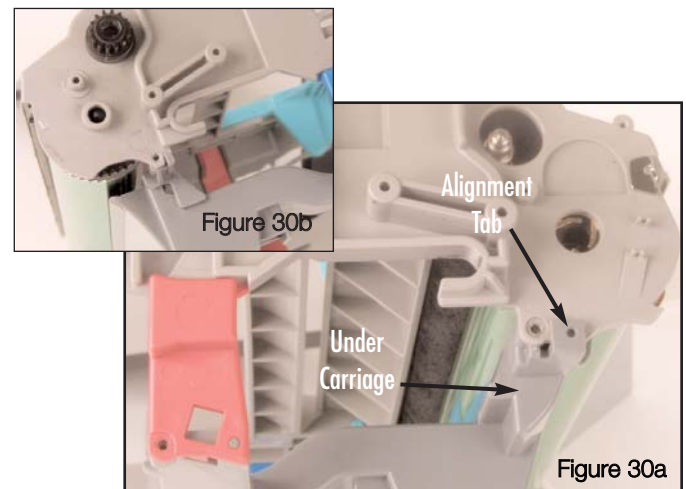

Figure 30a
- b. Reposition the alignment tab on the under carriage on to the alignment post on the contact side (Figure 30a). Then ensure the under carriage is aligned on the drive side, see Figure 30b.